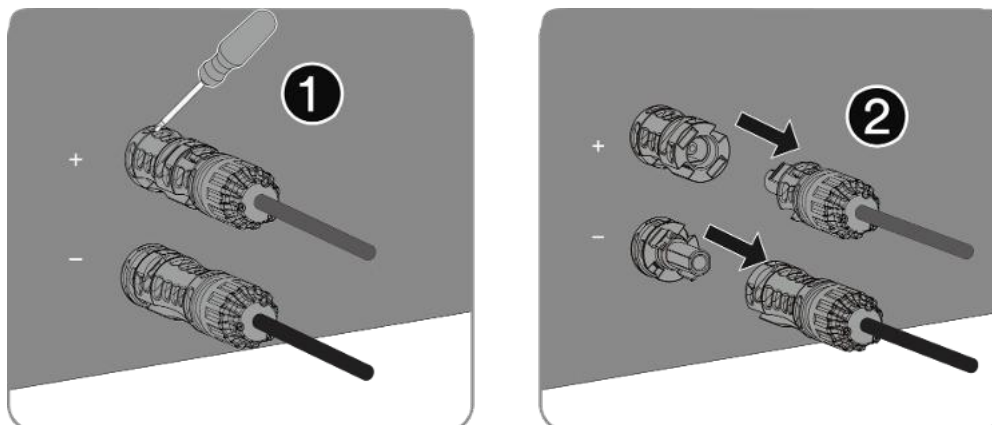

Fig. 238. Loosen and remove the Battery connector.
- 4 Remove cables and insert DC contact plug with attached sealing plugs. (see Fig. 238)